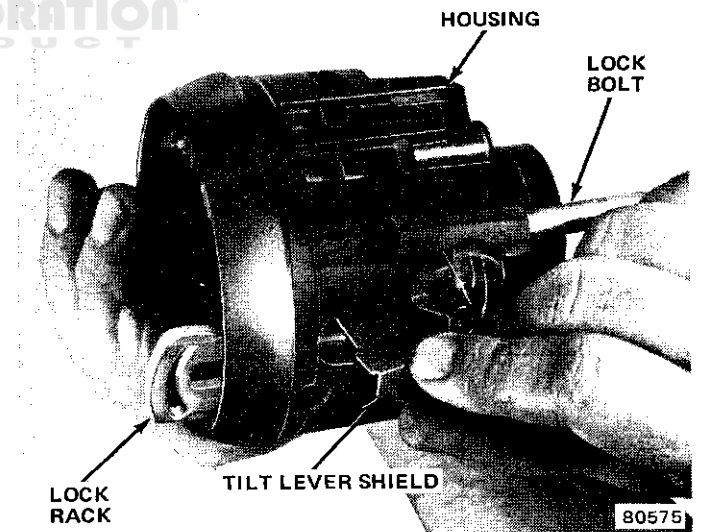

Fig. 2J-54 Tilt Lever Shield Removal
(22) Remove upper bearing race and bearing seat from steering shaft (fig. 2J-51).
(23) Reinstall tilt lever and place column in full upward tilt position.